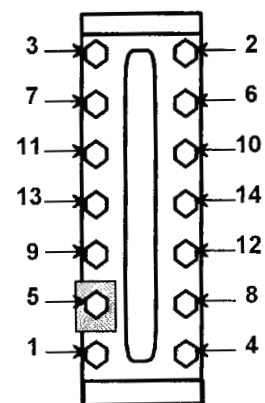

FIGURE 3
2. Hold gage firmly; loosen nuts starting at both ends of each section and then proceed from both ends to the center of each section as shown in Figure 3.